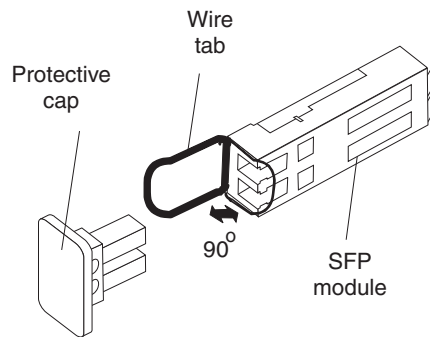

Figure 26. Unlocking the SFP module latch - wire variety
- For SFP modules that contain wire tabs, unlock the SFP module latch by pulling the wire latch outward 90°, as shown in Figure 26 on page 35.